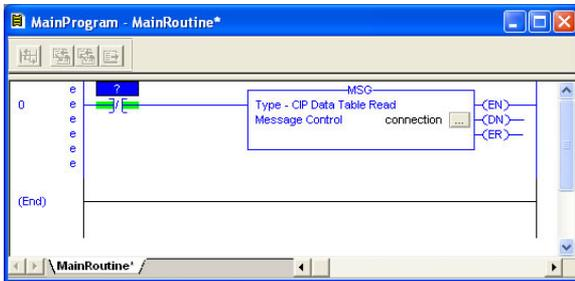

Figure 106: MainRoutine
- e) Click "OK" to close the MSG Configuration dialog. At this stage, MainRoutine should look like Figure 106.